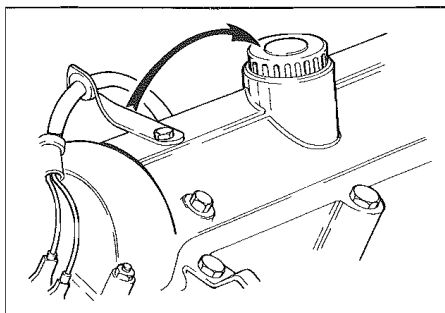

Fig. 15 - Tappo di riempimento olio
Dal tappo di carico olio (**Fig. 15**).
- Dal tappo di carico olio (**Fig. 15**).
Topping up is made through the oil filler cap (**Fig. 15**).
- The oil renewal is made through the oil filler cap (**Fig. 15**).